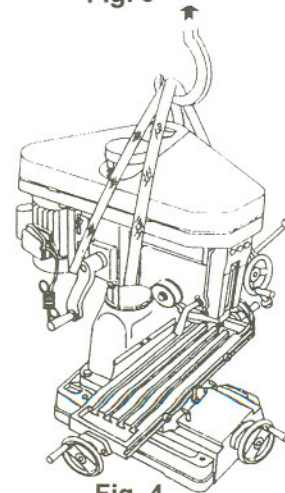

Fig. 4
2. Place nylon slings with a load rating exceeding the weight of the mill/drill around the head so that the sling will not damage any parts when tensioned. See Fig. 4.